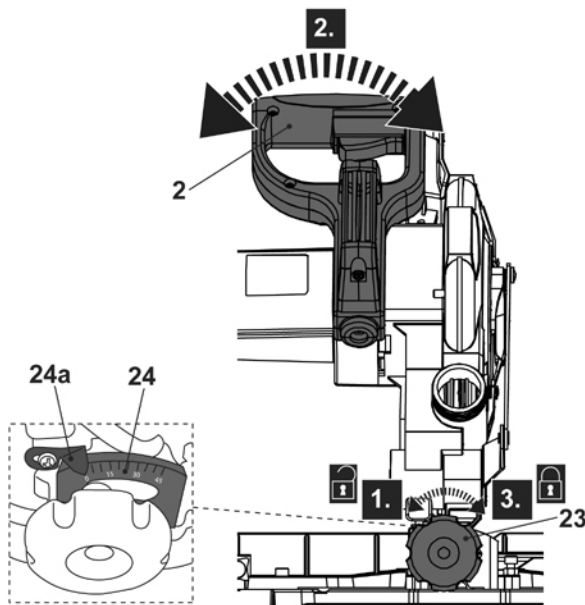

Fig. 6
- > Loosen the bevel locking knob (23) (Fig. 6, step 1).
- > Move the operating handle (2) (step 2) until the bevel angle pointer (24a) aligns with the required angle on the bevel scale (24).